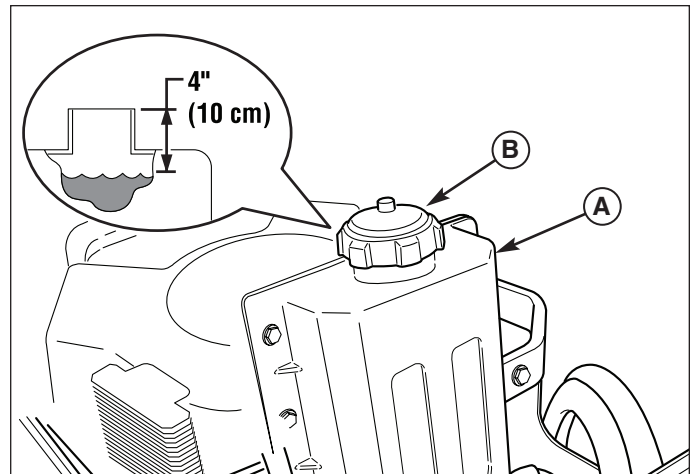

Figure 17. Checking Hydraulic Oil Level
2. Unscrew the reservoir cap (B, Figure 17).
3. Look down the filler neck of the hydraulic oil reservoir (A, Figure 17) and observe the oil level. When cold, the oil level should be approximately 4" (10 cm) below top of the filler neck.